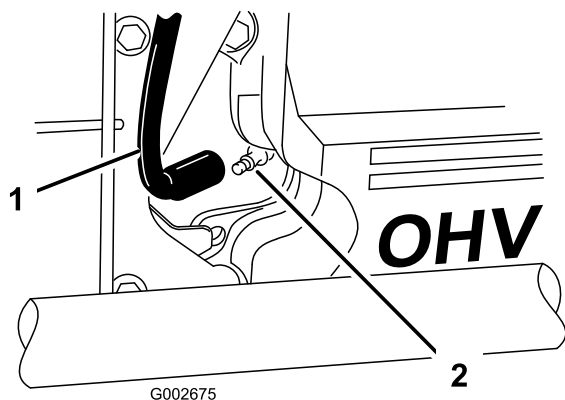

Figure 27
3. Pull the wire(s) off of the spark plug(s) (Figure 27). Clean around the spark plug(s) to prevent dirt from falling into the engine and potentially causing damage.
3. Push the wire(s) onto the spark plug(s) (Figure 27).